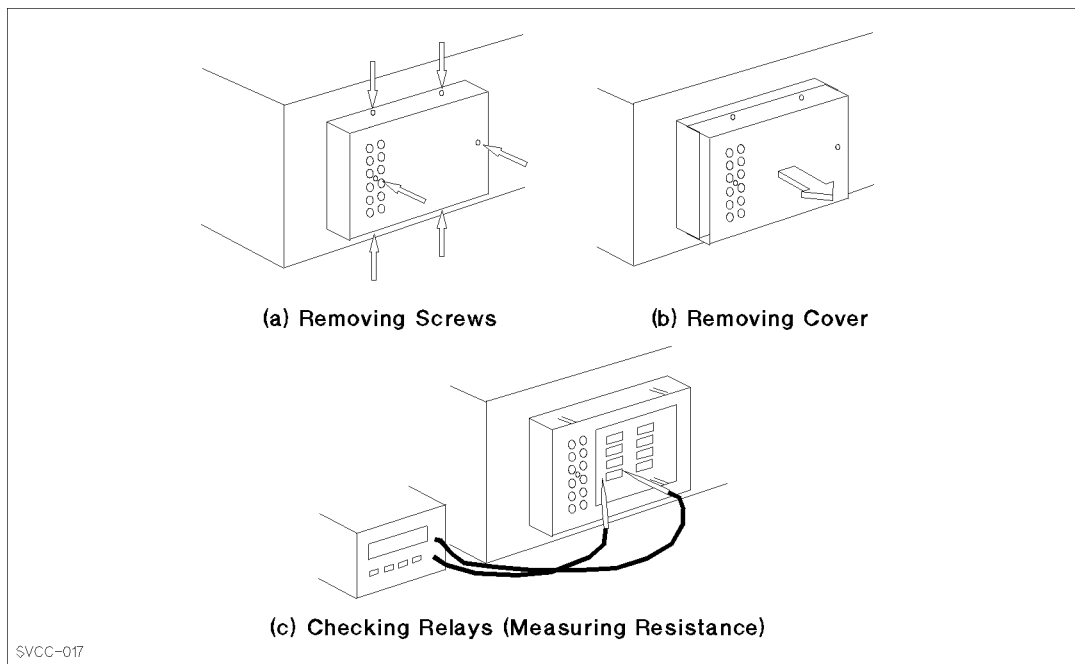

Figure C-5. Accessing the Port Expander Board
1. Remove the six screws as shown in (a) of Figure C-5.
2. Remove the port expander cover as shown in (b) of Figure C-5.
3. Troubleshoot the port expander relay failures, for example, by using a digital multimeter as shown in (c) of Figure C-5.